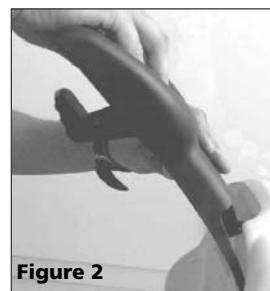

Figure 2
2. Insert handle into back of unit at an angle, as shown in Figure 2.